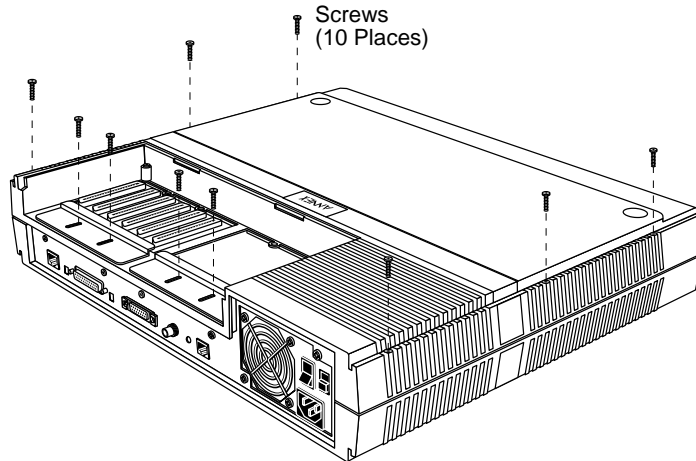

Figure C-2. Removing the Screws from the Cover
- 4 Remove the ten pan-head Phillips screws and two cable retainers (see Figure C-2).